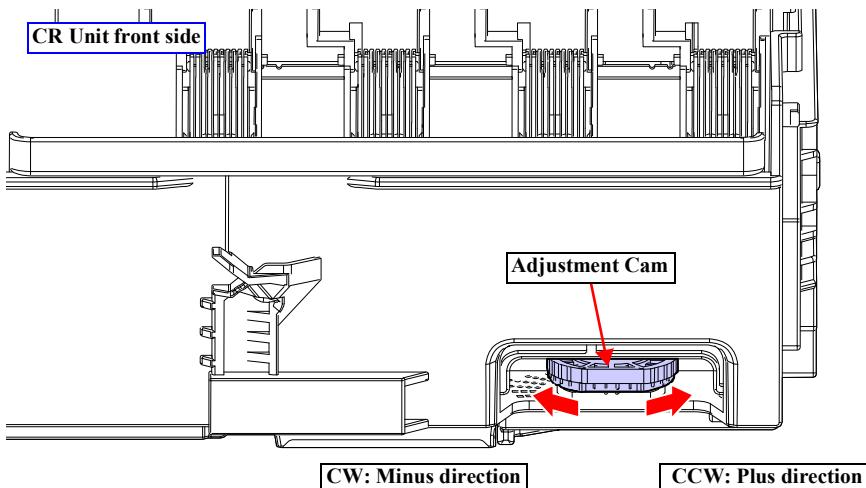

Figure 4-31. Inclination adjustment
12. Refer to Figure 4-31, and rotate the Adjustment Cam to adjust head inclination.